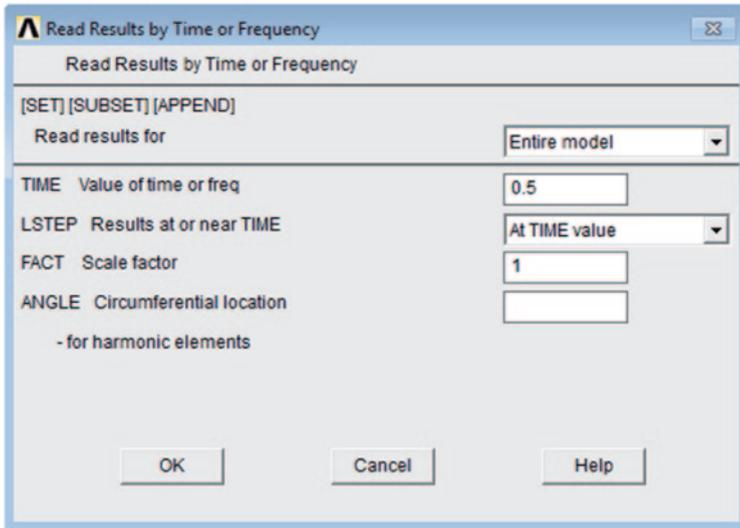

Fig. 5.24 Read results by time or frequency dialog box used in the analysis
- As shown in Fig. 5.24, Read Results by Time or Frequency dialog box appears; enter 0.5 for TIME Value of time or freq; click on OK.